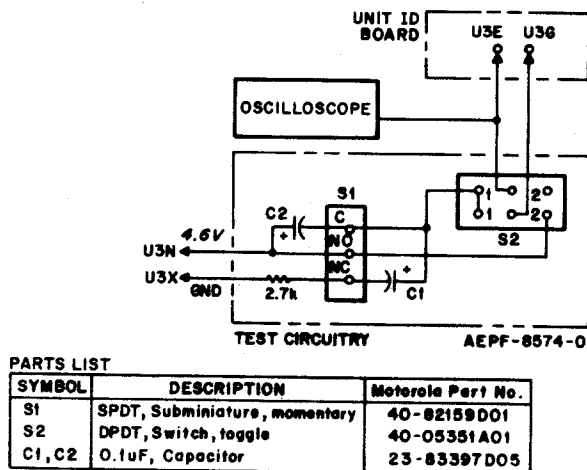

Figure 43. Unit ID Test Circuit Diagram
- (1) Make sure radio is turned off.
- (2) Remove the unit ID board from its housing.
- (3) Attach the external circuitry (S1, S2, C1, and C2), as shown in Figure 43. (Circuitry shown is in the TEK-83 Unit ID sequencer).